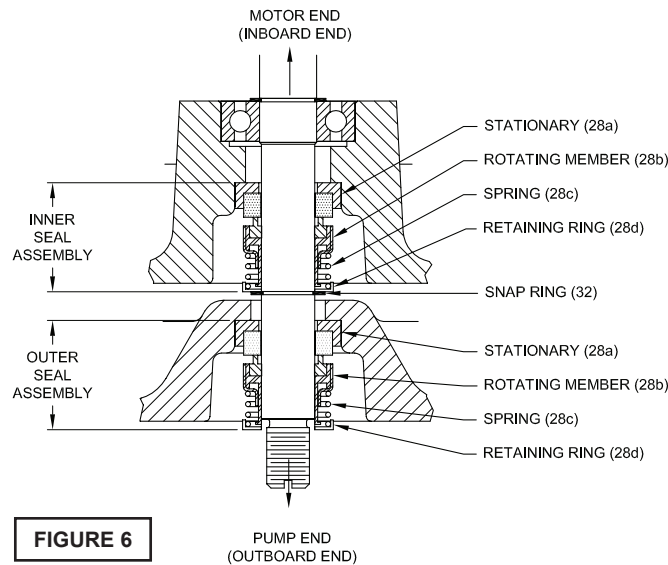

FIGURE 6
Inner Seal (DS Units Only)- To expose inner shaft seal (28) for examination, remove outer seal as outlined above. Remove socket head cap screws (64). Lift outer seal plate (29) and square-ring (27) from inner seal plate (5). See Figures 6 & 7. If further repair is required, remove snap ring (32), retaining ring (28d), spring (28c) and rotating member (28b) from shaft. Examine as outlined in outer seal paragraph. If replacing seal, remove stationary (28a) by prying out with flat screwdriver.